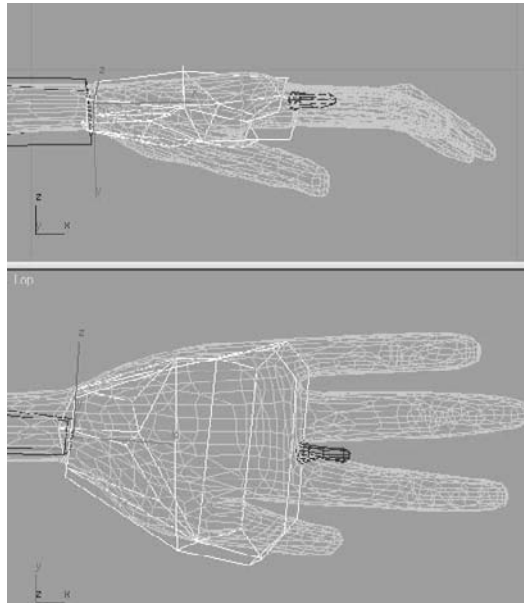

Figure 9.35
- Scale and rotate the left hand as required to fit the model, as shown in Figure 9.35.